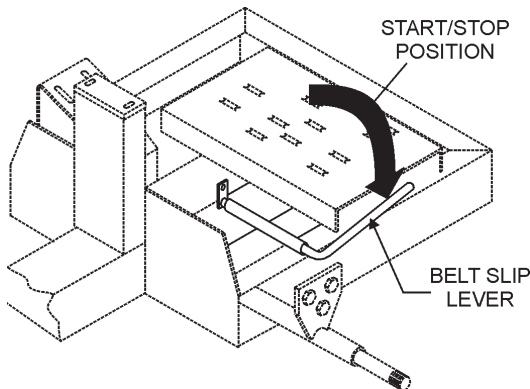

Figure 17. Belt Slip Lever (Start/Stop Position)
- Place the **belt slip lever** (Figure 17) in the **START/STOP** (disengaged) position.